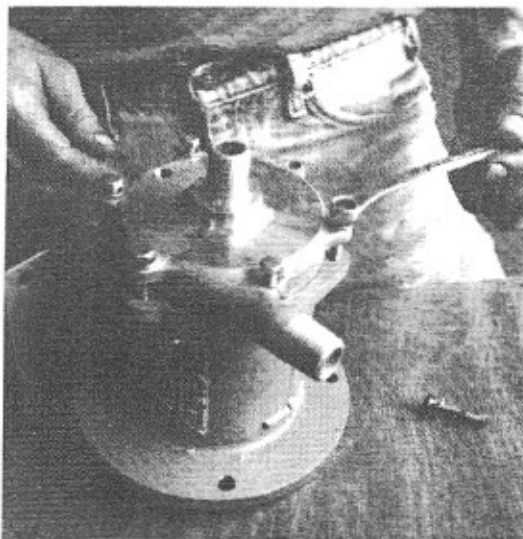

Figure 23
- B. Loosen in an alternating pattern in stages and remove the casing bolts (Part No. 63) from the frame adapter (Part No. 15) [Fig. 23].